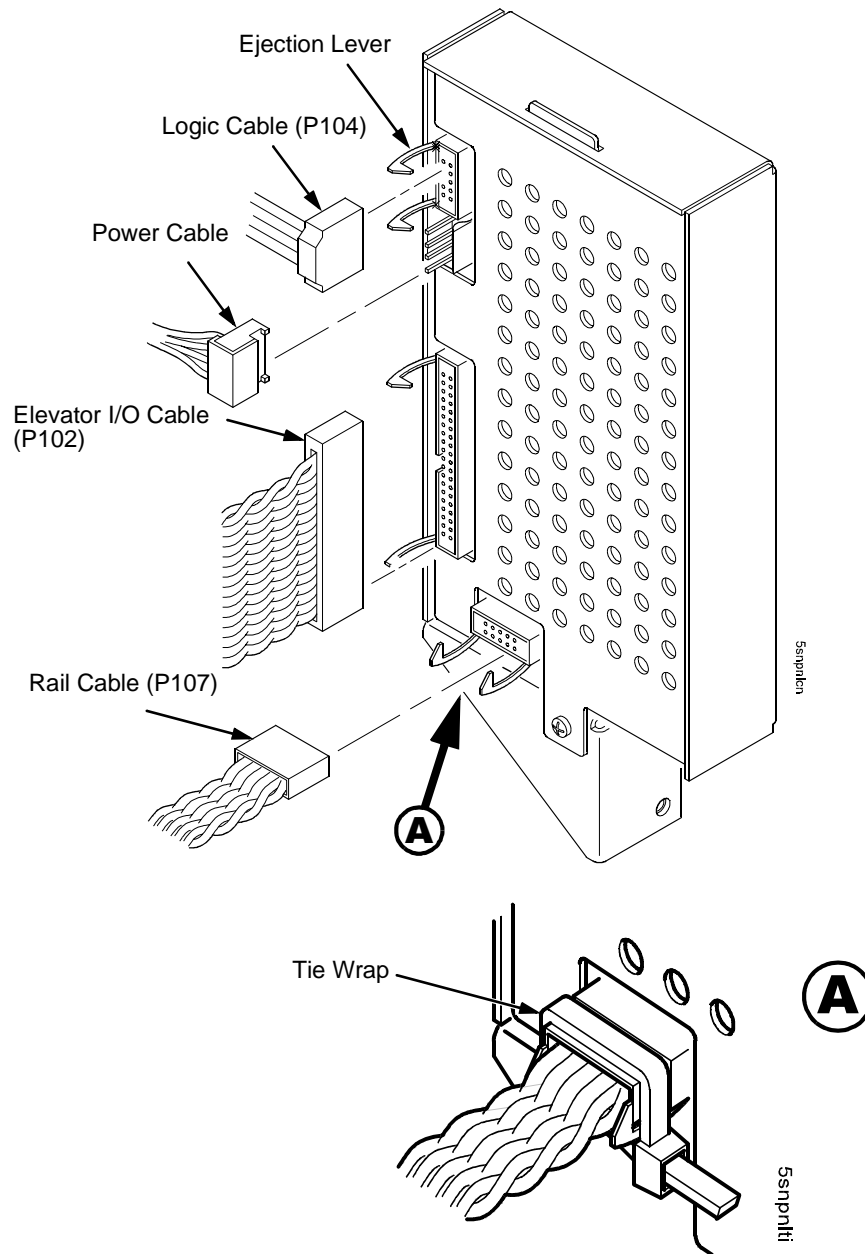

Figure 81. Stacker Control Panel Cables
26. Connect the stacker cables to the rear of the stacker control panel assembly and make sure the ejector levers close over the connectors. (Figure 81.)
27. Press rail cable connector P107 into the control panel until the ejectors close, then tie wrap the ejectors to the connector. (Figure 81, detail A.)